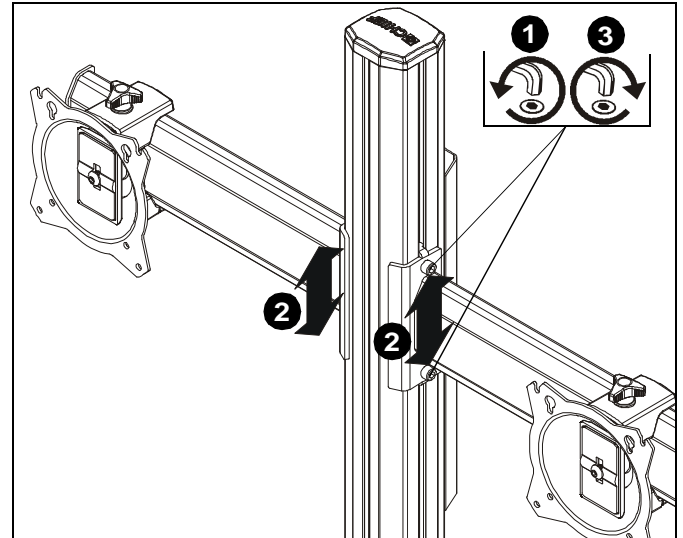

Figure 9
1. Loosen height adjustment screws for specific display that will be adjusted. (See Figure 9)
2. Adjust arm or display to desired height. (See Figure 9)
3. Tighten height adjustment screws to lock display's position. (See Figure 9)